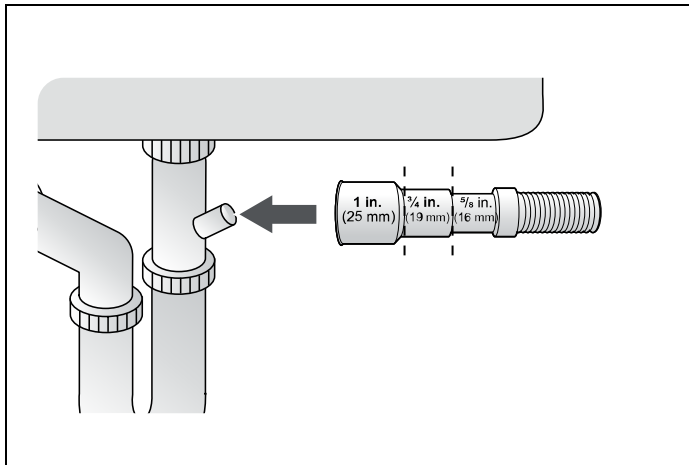

Fig. 18
3) Check the size of the sink drain hose connector. If needed, cut the drain hose so its end fits onto the sink connector (5/8", 3/4" or 1" - as shown in Fig. 18). If the end of the drain hose does not fit onto the drain hose connector of the sink, use an adapter purchasable at a plumbing/hardware supply store.